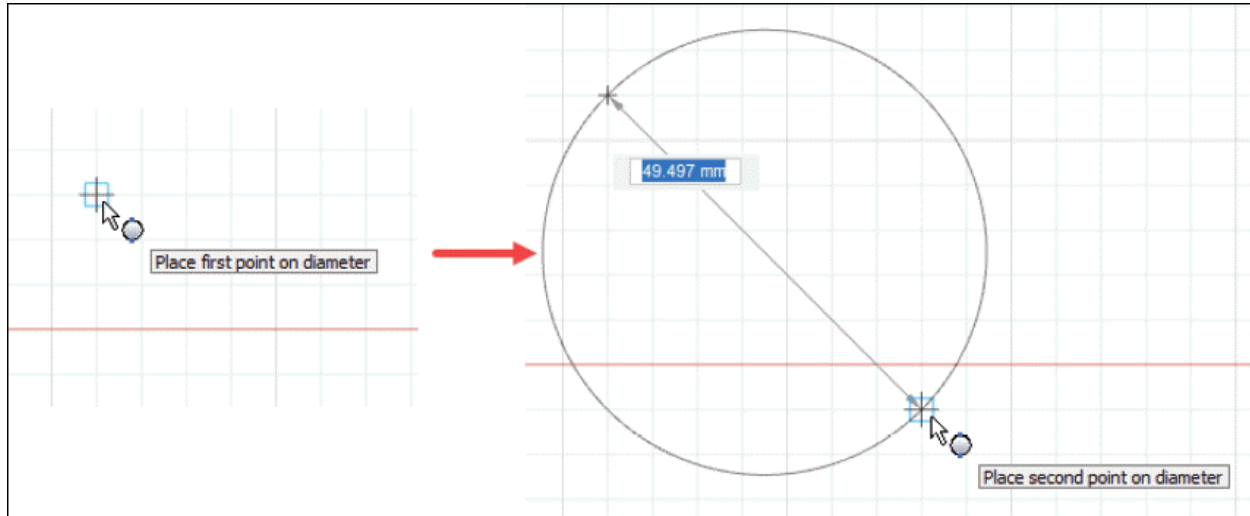

Figure-15. Creation of 2-point circle
- Click on the **2-Point Circle** tool of **Circle** cascading menu from **CREATE** drop-down and specify the first point for circle; refer to Figure-15.